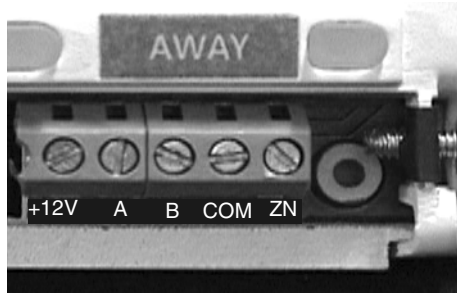

Figure 6. Touchpad Wiring Connections
2. Connect the touchpad +12V, A, B, and COM terminals to the matching panel terminals (Figure 6 for touchpad terminal identification).
2. Connect the cable plug onto the panel Programming Touchpad Header pins (Figure 6).